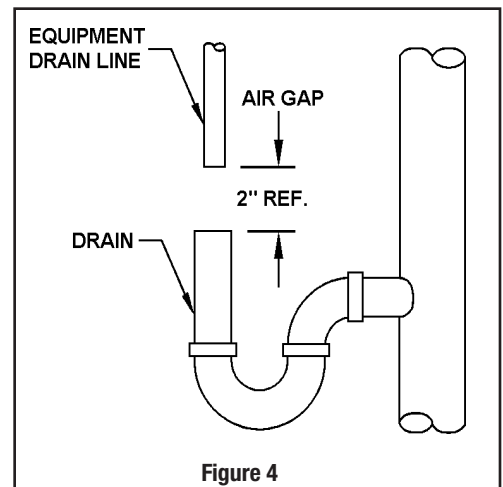

Figure 4
Step 8) Position the drain line over the drain and secure firmly. To prevent back-siphoning of sewer water, provide an air-gap of at least 2" or 2 pipe diameters between end of drain hose and drain (Figure 4). DO NOT raise drain line more than 10 ft. above floor.
- Step 14) Partially open the inlet knob on bypass valve (Figure 4). This will allow the unit to fill slowly from the bottom up, reducing air entrapment. Allow the unit to fill slowly, failure to do so could result in loss of resin to the drain. Once a steady stream of water, with no air sputtering, is flowing to the drain, the inlet and outlet bypass knobs can be fully opened (refer to Figure 5). Allow water to flow for 30 minutes.